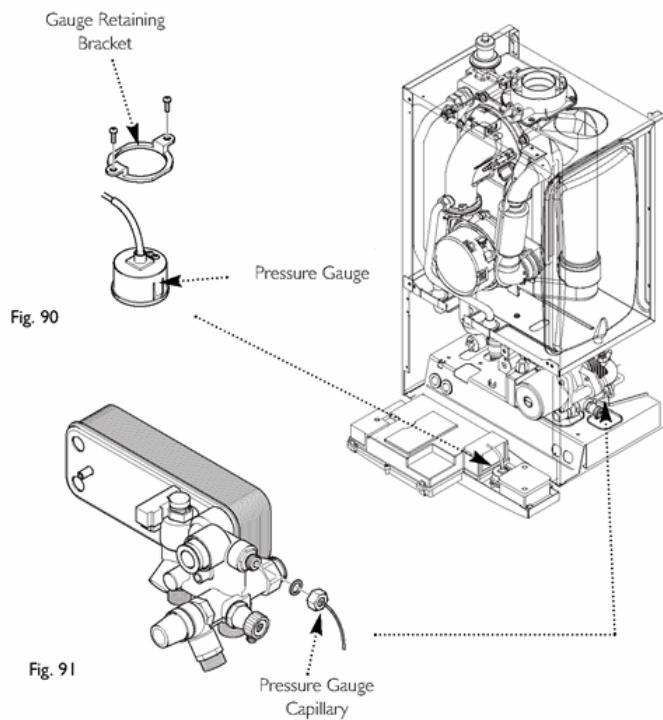

Fig. 90 & Fig. 91
14.15 Pressure Gauge (Figs. 90 & 91)